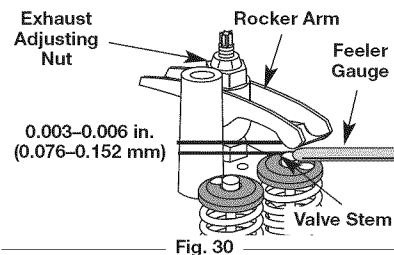

Fig. 30
- Slide the feeler gauge between the rocker arm and the valve return spring. Measure the clearance between the valve stem and rocker arm (Fig. 30). Measure both the intake and exhaust valves.